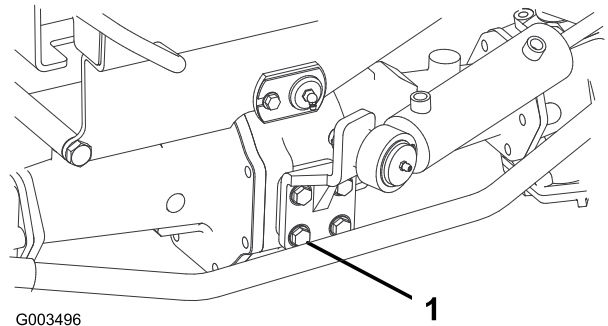

Figure 69
2. Torque the 4 bolts for the steering-cylinder mount (Figure 69) to 65 to 81 N·m (48 to 60 ft-lb).